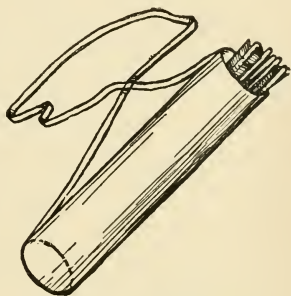

FIG. 247. — A Quiver.
**A Quiver** of some sort should be provided, large enough to carry a dozen or more arrows, and this should be three inches shorter than the arrows, so that their ends will project above the top. It may be made out of any thick cloth, as shown in Fig. 247. A circular piece of cardboard is placed in the bottom to which the cloth is sewed, and a piece of heavy wire, bent into a circle, fits in the top to keep the bag open. The quiver should hang on your right side, being suspended by means of a cloth strap long enough to pass over the left shoulder.